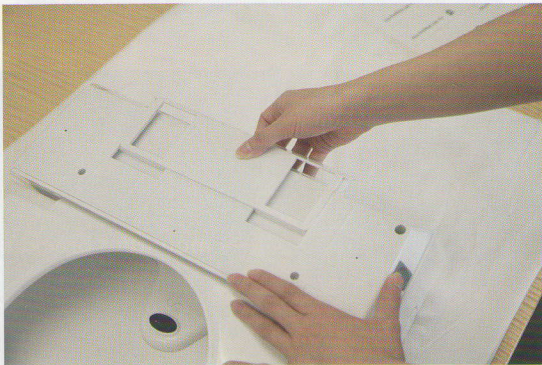

Fig. 3
- 2) Push and hold gray button on the side of the Sensor Toilet Seat. Release and slide off Mounting Bracket from the Sensor Toilet Seat (Fig.3)